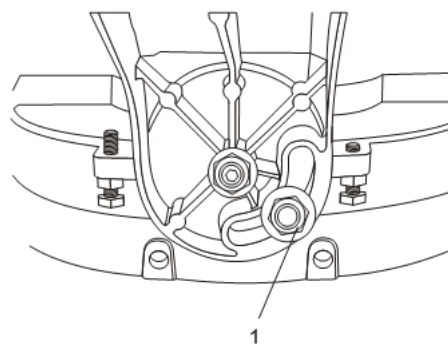

Fig. 17
The bevel friction can be adjusted to make the cutting head easier or harder to move from side to side. To reduce the friction, turn the friction lock nut (1) counter clockwise (Fig. 17). To increase the friction, turn the friction lock nut clockwise.